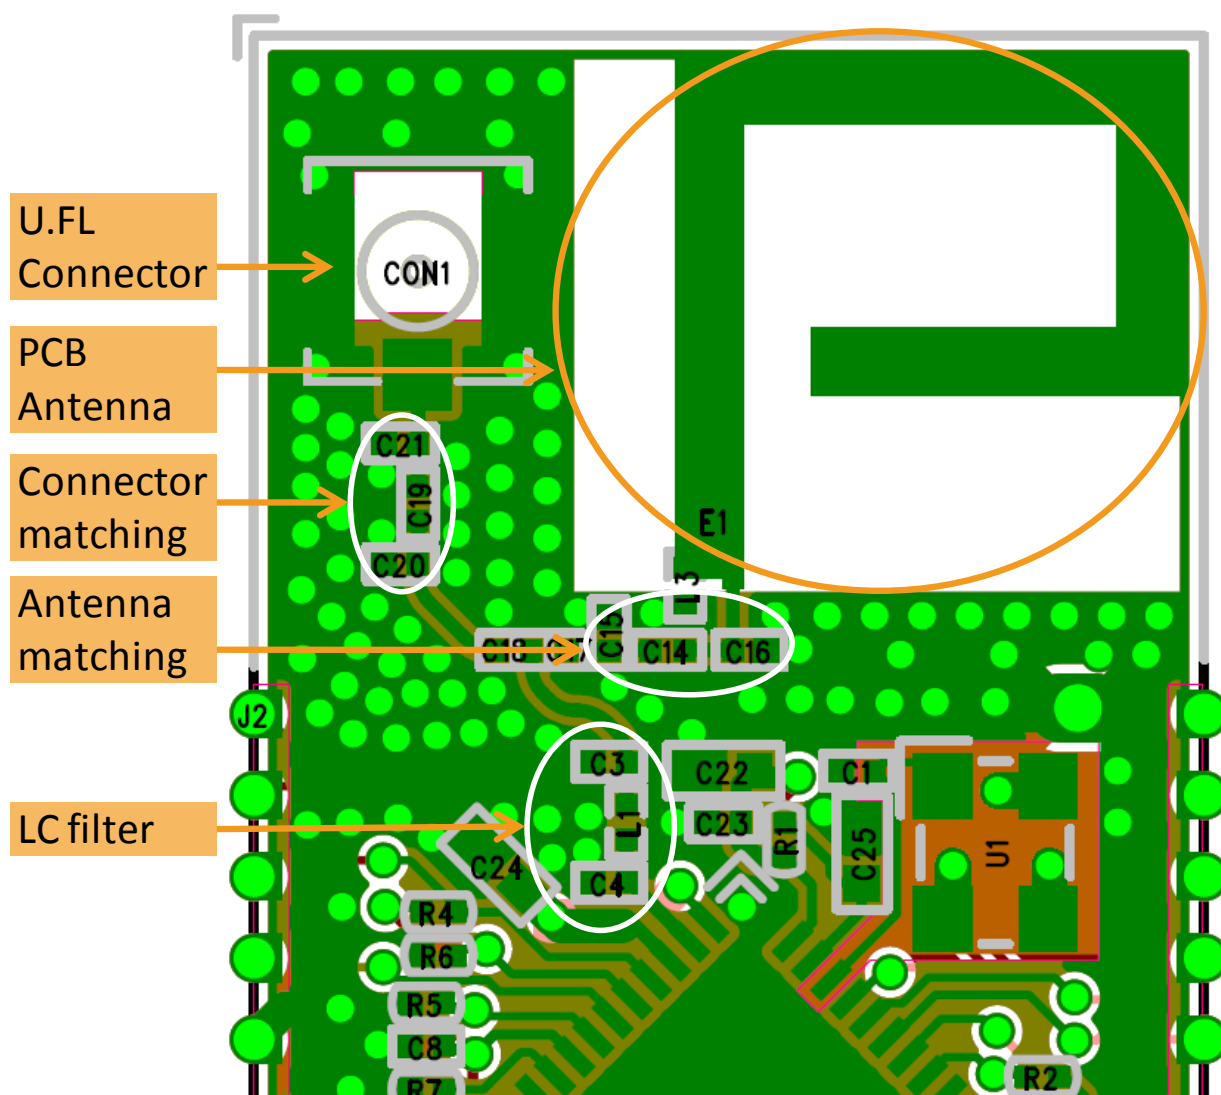

Figure 7. RF section
It is essential to provide a correct layout for the RF section (see Figure 7) for the wireless device in order to achieve optimum device performance. A poor layout can cause performance degradation for the output power, EVM, harmonic emission, sensitivity and spectral mask.
- 4) In case a conducted test is required on the PCB, it is recommended to add a U.FL connector, as shown in Figure 7.